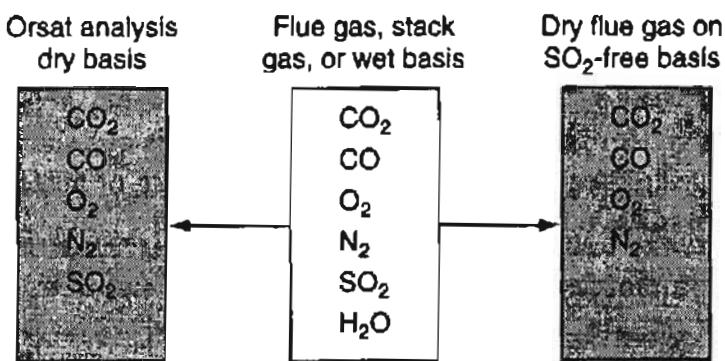

Figure 10.4 Comparison of a gas analysis on different bases.
- Orsat analysis or dry basis**—all the gases resulting from a combustion process *not including the water vapor*. (Orsat analysis refers to a type of gas analysis apparatus in which the volumes of the respective gases are measured over and in equilibrium with water; hence each component is saturated with water vapor. The net result of the analysis is to eliminate water as a component that is measured.) Look at Figure 10.4. To convert from one analysis to another, you have to adjust the percentages of the components to the desired basis as explained in Chapter 2.